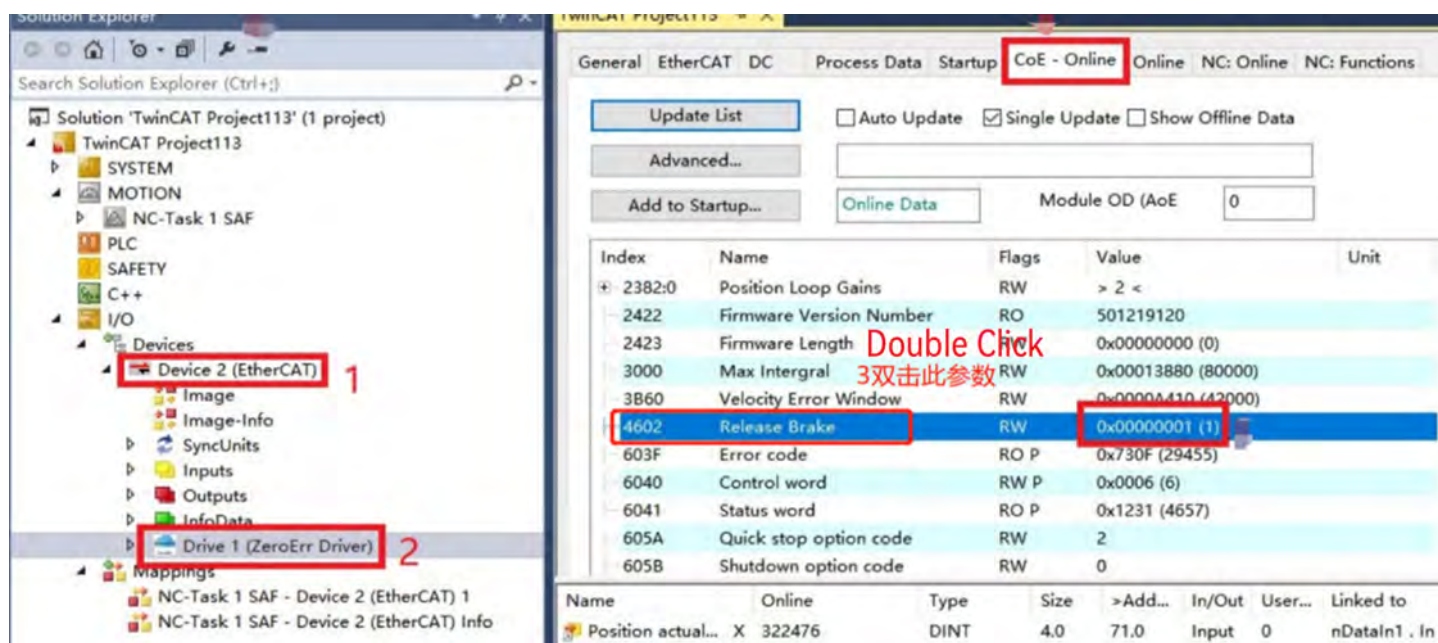

Figure 7-3 TwinCAT release brake operation
Step 2: Take TwinCAT3 master station as an example, visit “Release Brake” parameter object “4602h (Release brake)” and enter value “1” through SDO, operation methods are shown in Figure 7-3, click “Device 2 (EtherCAT)”, click “Drive1(ZeroErr Driver)”, click “CoE-Online”, pull down to find the object “4602”, double left-click the parameter object, the “Set Value Dialog” interface will pop up, enter value “1” in the “Dec”, and finally click “OK”, the brake is in release status (free brake), and if value “0” is entered, the brake is in close status(with brake).